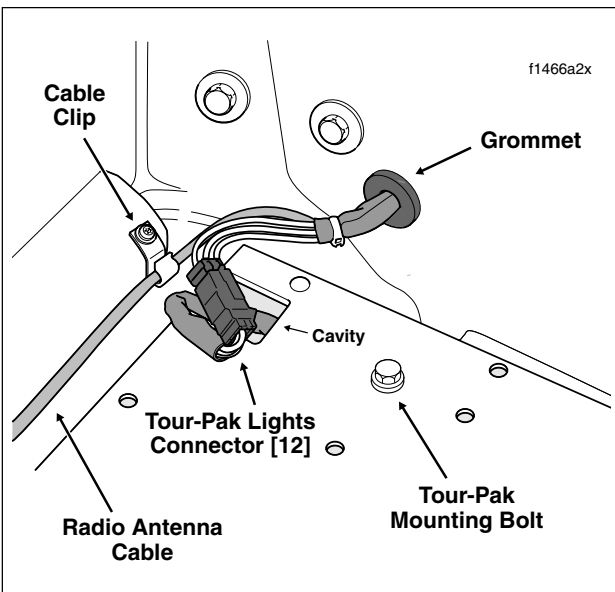

Figure 2-140. Disconnect Tour-Pak Lights Connector
3. Pull Tour-Pak lights connector [12], 3-place Multilock, from cavity inside Tour-Pak. Depress button and separate pin and socket halves. See Figure 2-140.
7. Mate pin and socket halves of Tour-pak lights connector [12], 3-place Multilock, and tuck into cavity inside Tour-Pak. See Figure 2-140.
4. Pull Tour-Pak lights connector [12], 3-place Multilock, from cavity inside Tour-Pak. Depress button and separate pin and socket halves. See Figure 2-140.
12. Mate pin and socket halves of Tour-pak lights connector [12], 3-place Multilock, and tuck into cavity inside Tour-Pak. See Figure 2-140.